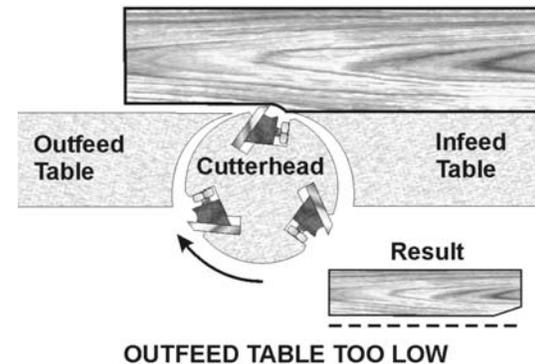

Figure 32
*Outfeed table too low* – If the outfeed table is too low, the work will have a gouge, or snipe, at the end of the cut (Figure 32).